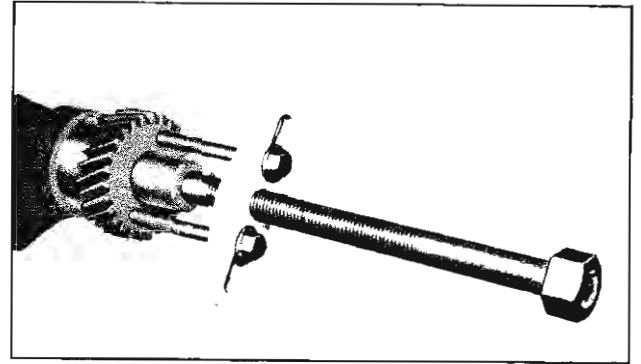

Fig. 71—Removing Crankshaft Gear
26. Remove crankshaft gear with gear puller Tool J-8105 (fig. 71).